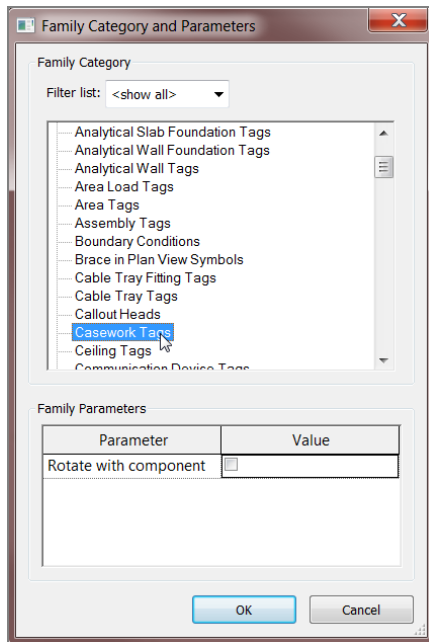

FIGURE 11.74: Selecting Casework Tags
3. In the Family Category And Parameters dialog, select Casework Tags, as shown in Figure 11.74.